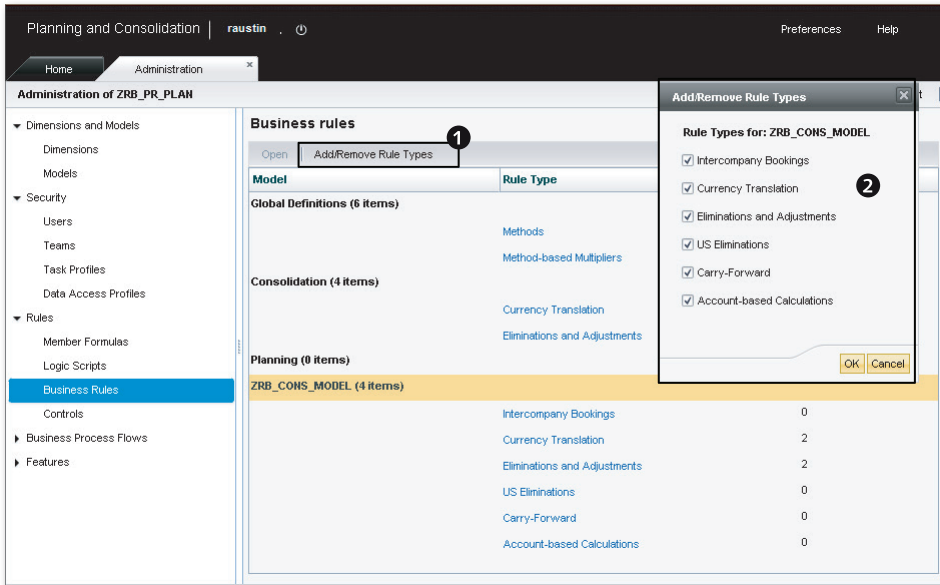

Figure 9.2 Configuring Carry Forward Balance Business Rule—Part B
2. In the BUSINESS RULES view of the RULES domain, click on the ADD/REMOVE RULE TYPES menu option to check the business rules to use inside a model (Figure 9.2, ❶ and ❷). Confirm that the CARRY-FORWARD business rule is checked in the RULE TYPES FOR MODEL before proceeding to the next step.